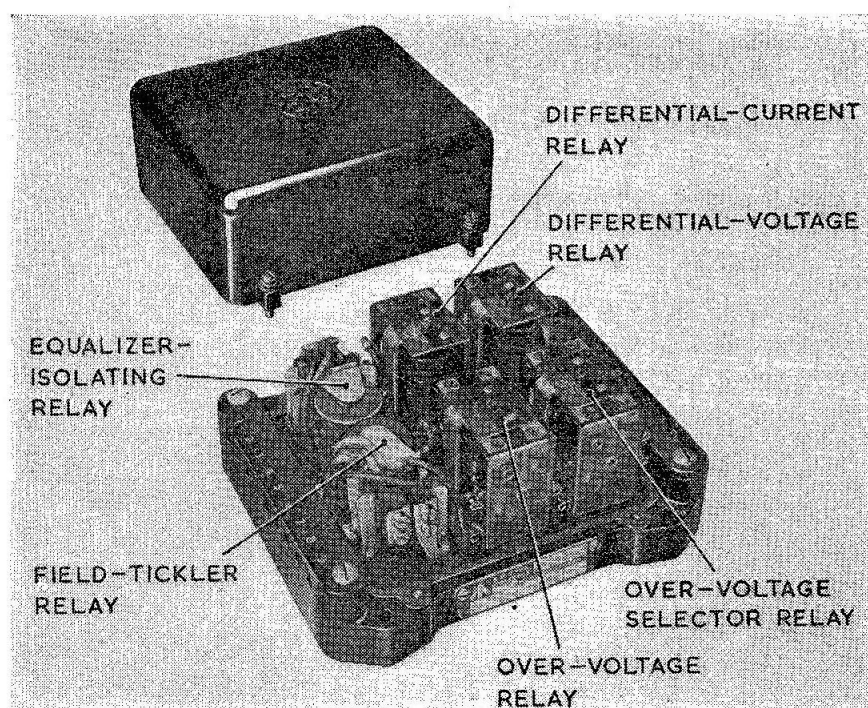

Fig. 1. Control switchbox, Type 1B
3. The control switchbox (*fig. 1*) consists of a moulded base, a moulded top cover and a base cover plate. Mounted on the base are six relays as listed in Table 1, flanked by a pair of terminal blocks moulded integral with the base. Each terminal block houses nine 4 B.A. terminal screws, the heads of which are protected by a cover strip secured to the block by a pair of screws. Enclosing the relays is the top cover, tapped inserts to the base taking its four securing screws.